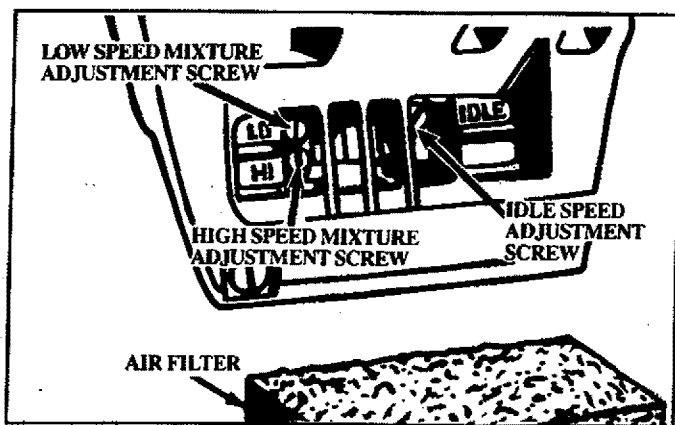

Figure 25
- b. Adjust Idle Speed Screw (Figure 25) until the engine continues to run without stalling and without the trimmer head moving.
- 2.) If the engine does not accelerate smoothly, turn the Low Speed Mixture Screw (Figure 25) counterclockwise  a small amount (no more than the width of the slot in the adjusting screw).
- Turn the Low Speed Mixture Screw (Figure 25) slowly clockwise → until the speed starts to drop. Note this position.
- Turn High Speed Mixture Screw (Figure 25) very slowly clockwise → until engine speed is reduced.
- Turn the Low Speed Mixture Screw and the High Speed Mixture Screw (Figure 25) clockwise → just until they stop. Do not turn the screws until they are tight as damage to the needle seats can occur.